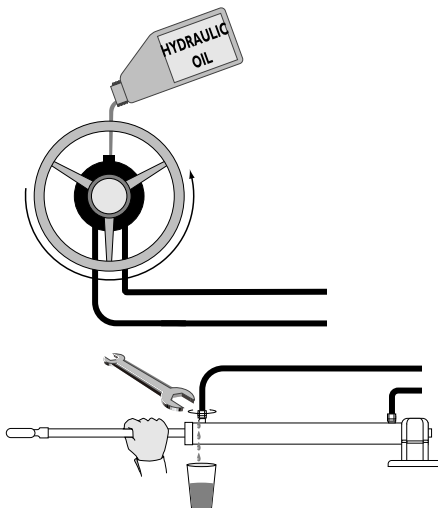

Fig 4.4 - Bleeding starboard hydraulic line
9. Holding the ram to stop it retracting into the cylinder, turn the helm anti-clockwise until a steady stream of oil comes out of the bleeder with no air bubbles (Fig 4.4). Drain at least ½ litre (1 pint) of oil to ensure all air is purged from the system. Retighten the bleed valve.